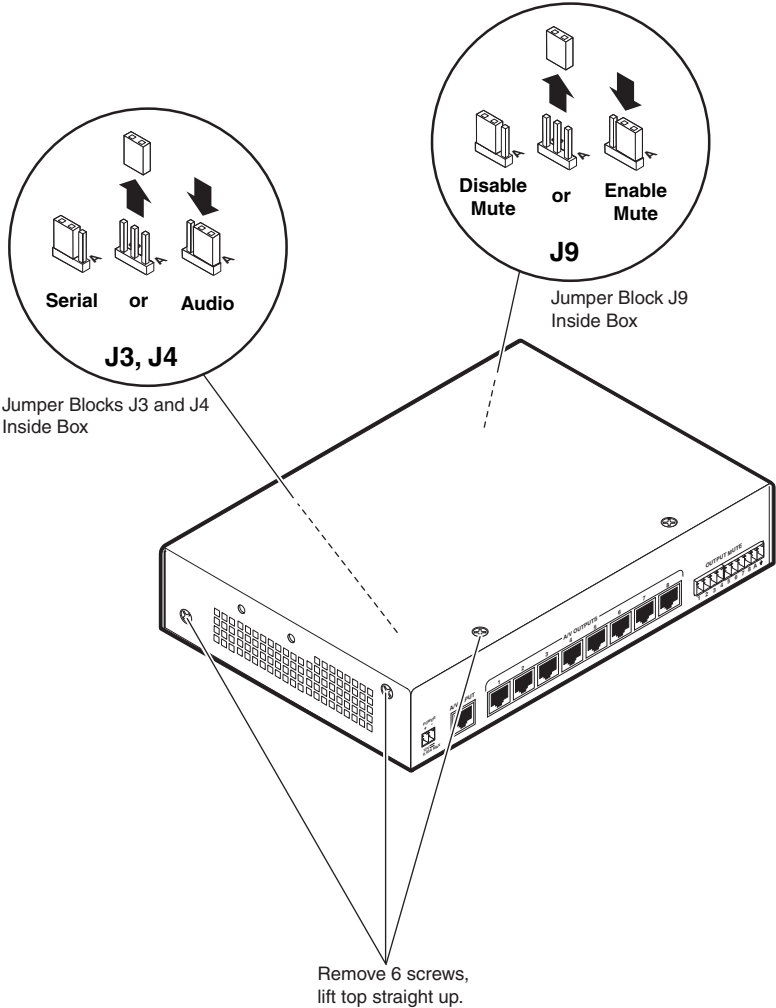

Figure 2 — Opening the DA and termination jumpering
2. Remove the two screws from either side of the DA and the two screws on the top (six screws total) and lift the top cover off of the DA (figure 2).
3. Select audio or serial distribution — Locate jumpers J3 and J4 on the main board and shift the jumper from the audio (A) (rear) to the serial (S) (front) position (figure 2).
4. Enable or disable audio or serial distribution mute — If desired, locate jumper J9 on the main board and shift the jumper from the disable mute (S) (front) to the enable mute (A) (rear) position (figure 2).